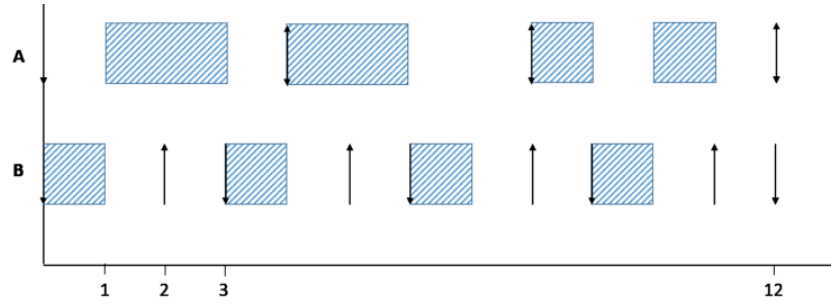

Figure 1 Solution to Problem ??. The down arrows indicate job arrivals and the up arrows indicate job deadlines.
- b. Since the deadlines are different from the periods and we are using EDF the only possibility to determine the scheduability (that is part of the course) is to draw the schedule over one hyperperiod and to check that all deadlines are met. The hyperperiod is $\text{lcm}(4, 3) = 12$ and the schedule is shown in Figure 1. As can be seen from the schedule all deadlines are met and, hence, the taskset is schedulable.